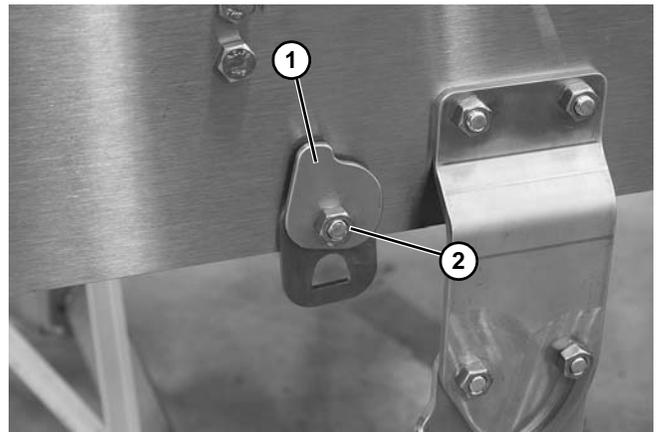

Figure 19
3. Install return clip (Figure 19, item 1) and loosely secure with nut (Figure 19, item 2).